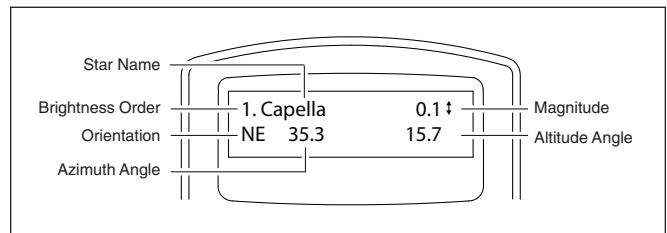

Figure 3. Alignment star information displayed on LCD.
4. Now, use the Scroll keys to scroll through the list of bright stars. There will only be a few stars, at most, on the list, and sometimes only one star will be on the list. The hand controller will display the name and magnitude of the bright star on the first line, and the approximate position of the star (based on the time and date entered during the initial setup) on the second line (**Figure 3**). The first coordinate